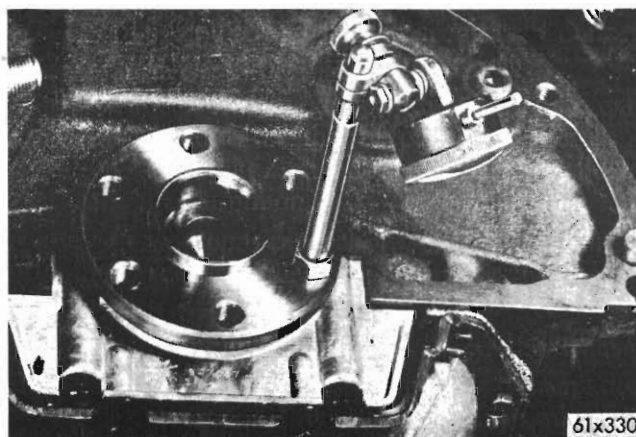

Fig. 1 - Dial indicator installation
- (1) Drain transmission oil pan.
- (2) Remove transmission and converter assembly (see respective *para.*)
- (3) Remove flexible drive plate.
- (4) Check the two dowels in rear face of cylinder block, making sure they extend at least  $5/16''$  out of block. Drive plate damage will result if one or both dowels are missing, or if they are not positioned correctly.
- (5) Slide converter assembly out of transmission and remove the oil pan.
- (6) Loosen the front (kickdown) band adjusting screw and remove the apply servo and strut (on Models C and D).
- (7) Remove front pump housing retaining bolts.
- (8) Attach Tool E21C35D to pump housing flange (A-904 Models). Thread screws of tool into flange holes at 11 and 4 o'clock positions.
- (9) Bump outward evenly on the two knocker weights to withdraw oil pump and reaction shaft support assembly from case.
- (10) Carefully remove the front and rear clutch retainer assemblies and the kickdown band (to obtain access).
- (11) Install dial indicator on crankshaft flange (see Fig. 1). An indicator post can be made by cutting a  $7/16''-20$  T.P.I. thread on end of a rod approximately  $5\frac{1}{2}''$  long.
- (12) Clean all foreign material from cylinder block flange face, also from transmission case flange face.
(1) Install converter and tighten bolts to 270 lbs. in. torque. Do not use lockwashers on drive plate to converter bolts.
(2) Attach dial indicator to engine block flange (see Fig. 1). Position dial indicator so dial plunger rests on converter hub (just ahead of pump drive slots).
(3) Rotate crankshaft with a wrench on bolt at front end of crankshaft, and check converter hub runout. Do not rotate converter by hand or with a